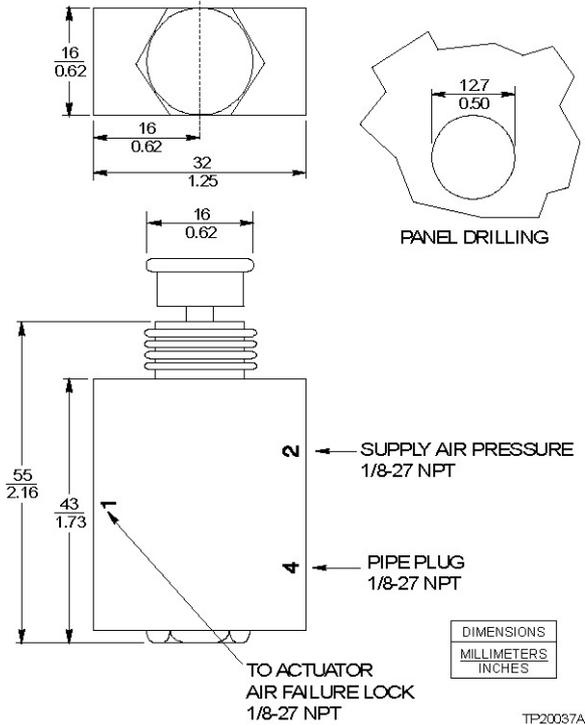

Fig. 3.16: Reset switch for air failure lock (drawing no. TP20037A)
Remote Reset. The air failure lock remains tripped until deliberately reset via a reset switch as supplied (shown in Fig. 3.16) or a normally closed solenoid valve (not supplied).
2. Install the reset switch in a suitable location. Refer to Fig. 3.16 for the dimensions.